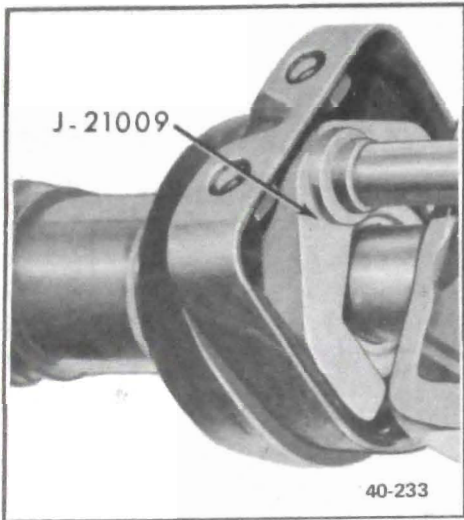

Figure 40-67 - Removing Center Support Lock Nut
1. Loosen locknut until free of threads and slide locknut and seal against the constant velocity joint. See Figure 40-67.